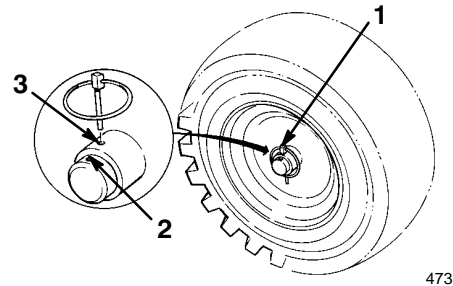

Figure 5
- Slide the wheels inward and install the axle pin through the holes in the wheel hub and through the **inner** hole of the axle (Fig. 5).